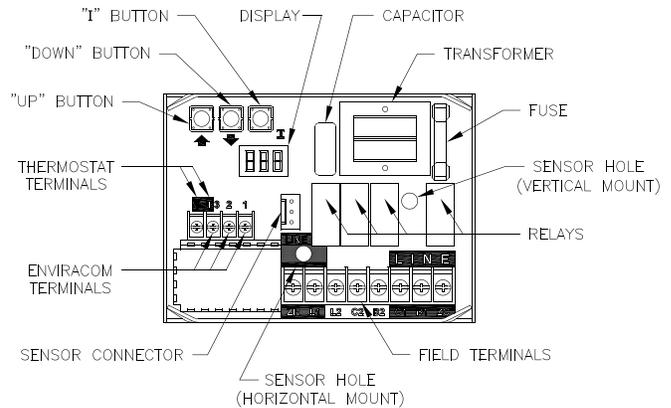

Figure 30: Intelligent Oil Boiler Control
- b. The boiler's sequence of operation is shown as Status Codes on Boiler Control display. See Table 7 and Figure 30.
- d. If the thermostat is not satisfied and the Operating Setpoint (SP) is reached the system circulator will continue to operate and the burner will stop. When the boiler water temperature drops below the setpoint less the differential setting the burner will restart.
- f. When an indirect water heater aquastat call for heat is wired to the "ZR" terminal the Boiler Control starts a domestic hot water circulator connected to the "ZC" terminal and when the boiler temperature is less than Operating Setpoint (SP), the boiler control energizes the oil primary to turn on the burner without circulator pre-purge delay.
- g. On burner start, if the CAD cell does not see flame within approximately 15 seconds, primary control will shut down the burner and enter into a lockout mode. A lockout is reset by pressing the reset button located on the primary control. If the flame is lost while the burner is firing, the primary control shuts down the burner, enters a 60 second recycle delay, and repeats the ignition sequence. If after three (3) trials for ignition, flame is not detected, primary control will enter into restricted mode. Restricted mode is reset by holding down the reset button for 15 seconds.